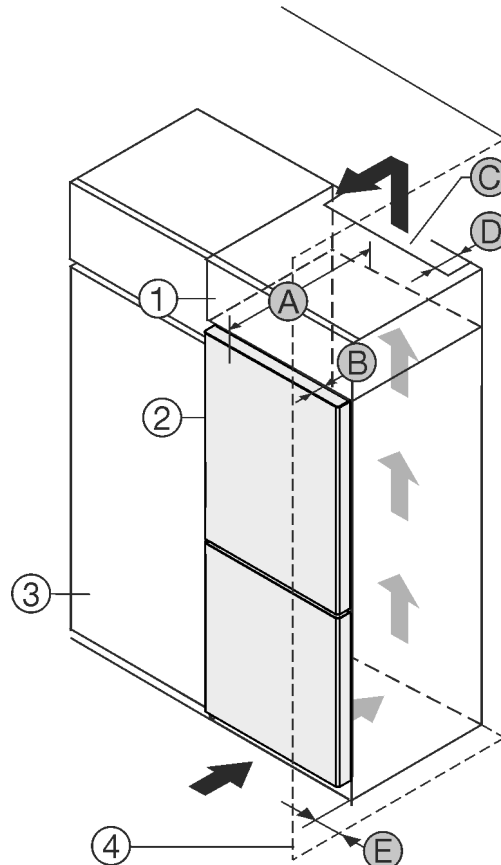

Fig. 1
- (1) Top cupboard
- (2) Appliance
- (3) Kitchen cabinet
- (4) Wall
- (B) Door depth
- (C) Ventilation cross section
- (D) Distance to the back of the appliance
- (E) Distance to the side of the appliance
- (A) Appliance depth
You can place the appliance directly beside the kitchen cabinet Fig. 1 (3).
There must be a ventilation shaft at the depth Fig. 1 (D) of the back of the top cupboard over the entire width of the top cupboard.
The ventilation cross-section Fig. 1 (C) must be maintained under the ceiling.
If the appliance is set up with the hinges next to a wall Fig. 1 (4), the distance between the appliance and the wall must be at least 13 mm.
If the appliance is set up with the hinges next to a wall Fig. 1 (4), the distance between the appliance and the wall must be at least 20 mm.
In order to be able to fully open the door, the appliance must protrude by the depth of the door Fig. 1 (B) from the front of the kitchen cabinet. The appliance may protrude further depending on the depth of the kitchen cabinets Fig. 1 (3) and whether wall spacers are used.